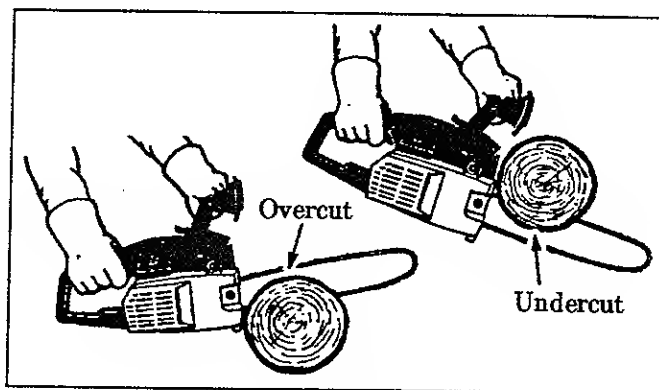

Figure 19
2. TYPES OF CUTTING USED (Figure 19):